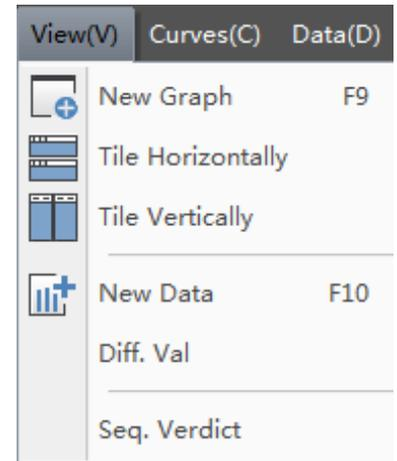

Figure 3.8 View Menu
3.2.5 View (V)
The drop-down menu of “View (V)” is as shown in Figure 3.8.